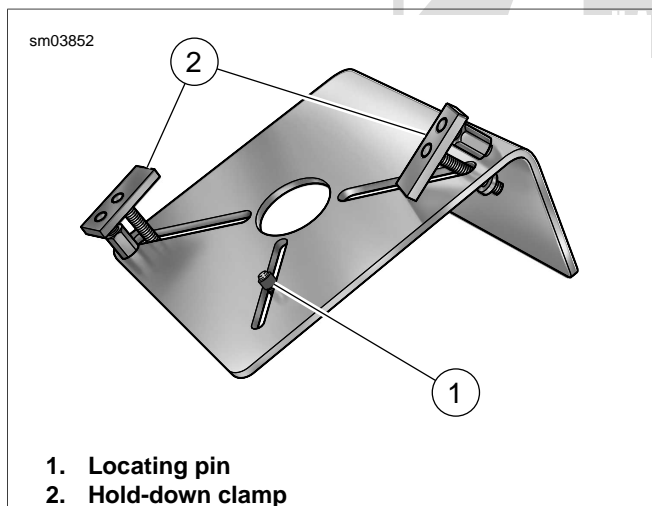

Figure 3-132. Flywheel Fixture (Part No. HD-44358)
1. Obtain FLYWHEEL SUPPORT FIXTURE (Part No. HD-44358). See Figure 3-132. Install brass jaws or shop towels around teeth of vise to prevent damage to tool. Clamp tool in vise with the round hole topside.